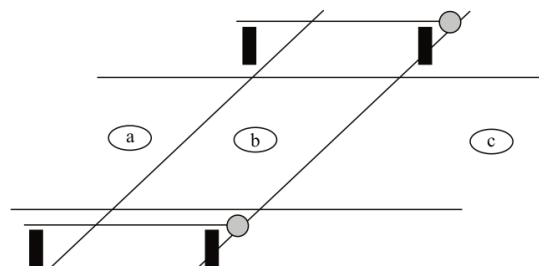

Figure 2
**Exercise 2.** We will consider rail crossing problem illustrated on Figure 2 (there is only one railway track that can be occupied by only one train at a time). Three detectors labeled a, b and c are placed on the rails and are used to control the opening/closing of the barrier. When the train passes through a or c, the barrier should close. When the train leaves the crossing, *i.e.* when b is released, the barrier should open. The train can come from any of the two directions and we will suppose that any maneuver inside the sensor zone is forbidden (train will not do reverse). Distances between different sensors are arbitrary. Trains could be of different lengths, in all 4 combinations are possible. If  $l$  is the train length, your control should consider the following lengths:  $l < ab$ ,  $bc > l > ab$ ,  $ac > l > bc > ab$ ,  $l > ac$ . Build the model of the control logic required to command the opening/closing of the barrier using LD diagrams. Perform simulations for all train length combinations and show proper command.